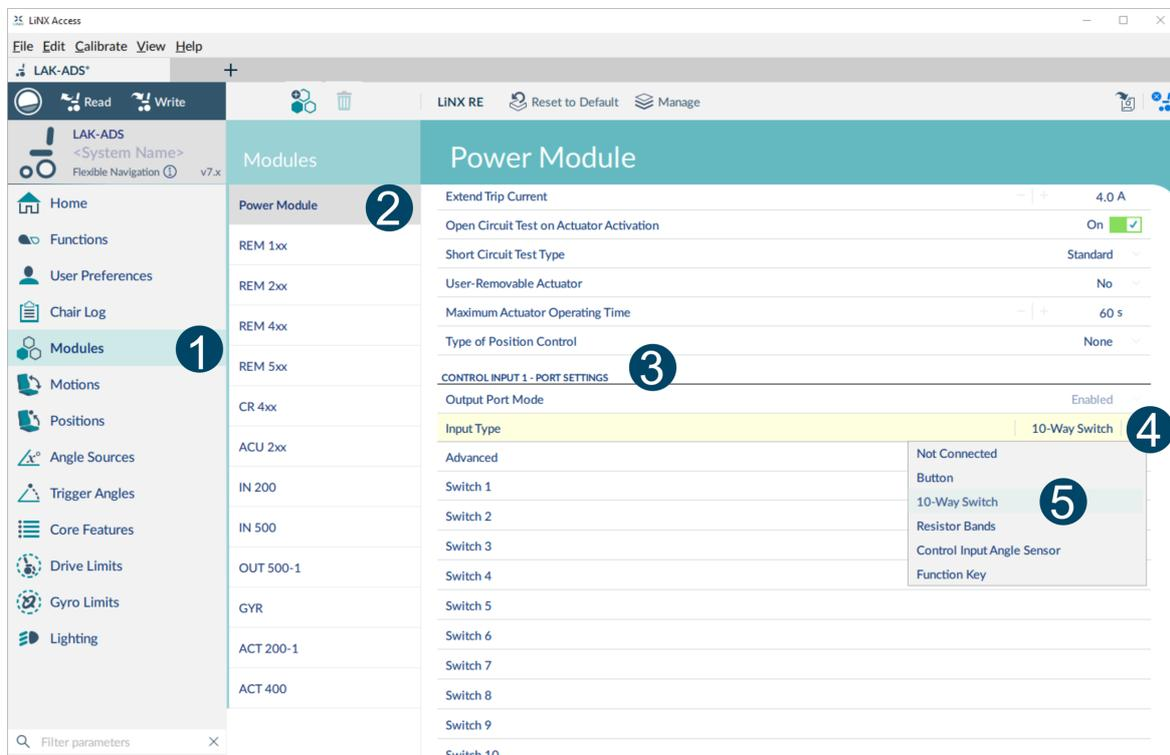

Figure 108: Selecting and configuring control IO inputs
1. From the primary navigation sidebar *Figure 108* **1**, click on **Modules**.
2. From the secondary navigation sidebar *Figure 108* **2**, labelled **Modules**, select the module that your input is connected to. For example, if you have a buddy button connected to one of the CI pins on the power module, select *Power Module*. If you want to use one of the multi-function buttons on the REM400, select *REM4xx*.
3. Scroll down until you find the **Port Settings** *Figure 108* **3** for the control input that you want to configure. For example, if you want to add a power button to the left jack socket on a REM400, scroll down until you find *Left Jack Socket (J1) Tip - Port Settings*.
4. Under **Port Settings**, click on **Input Type** *Figure 108* ⁴ to reveal which input types are available for the input. These differ depending on the module and your LiNX Access Key access level (OEM/dealer). Input types available will be one or more of the following:
5. Click on one of the Input Types *Figure 108* ⁵ to reveal its control IO slots: